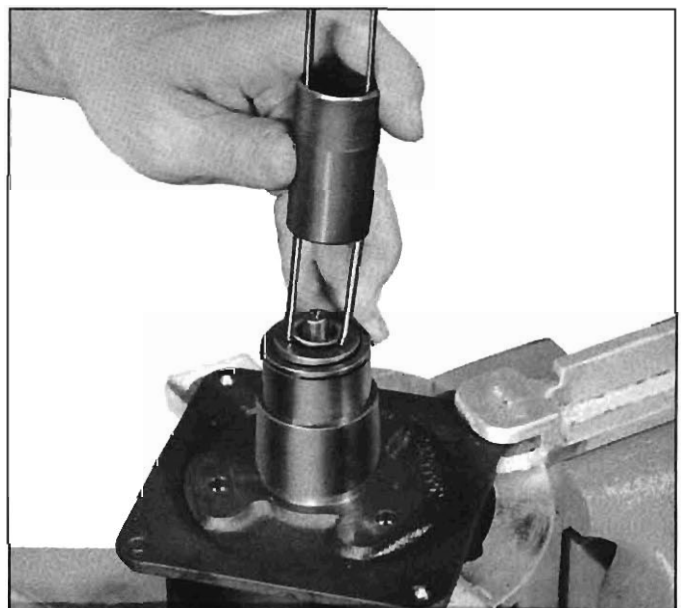

Fig. 11-41—Removing Seal Seat
3. Using Tool J-9393 (1 and 2), grasp the flange on the seal seat and lift out the seal seat (fig. 11-41).